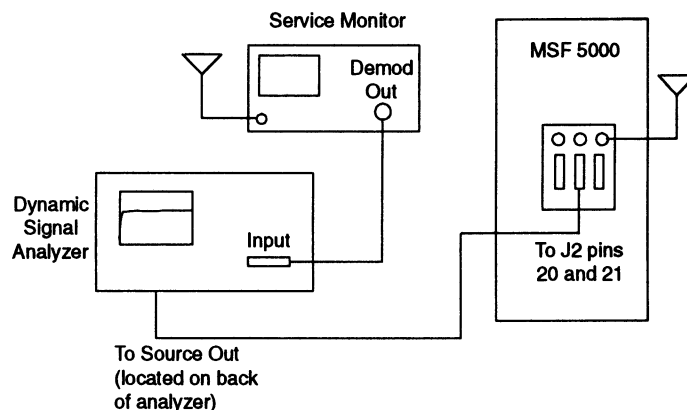

Figure 8. Mod Comp Equipment Setup for Systems Without a Functional Audio Distribution Network
Step 1. Inject the output of a DSA directly in the MSF 5000 system connector J2 (pins 20 and 21). This requires the MSF 5000, the DSA and the optimization console or service monitor to be in the same location. Figure 8 shows this configuration using a service monitor.